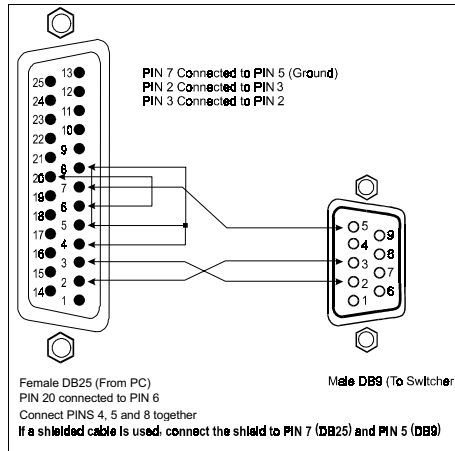

Figure 14: Connecting a PC (with a 25-pin connector) without a Null-modem Adapter
1. Connect the PC's DB25 COM port to the RS-232 IN DB9 port on the **VS-162V** unit, as Figure 14 illustrates: